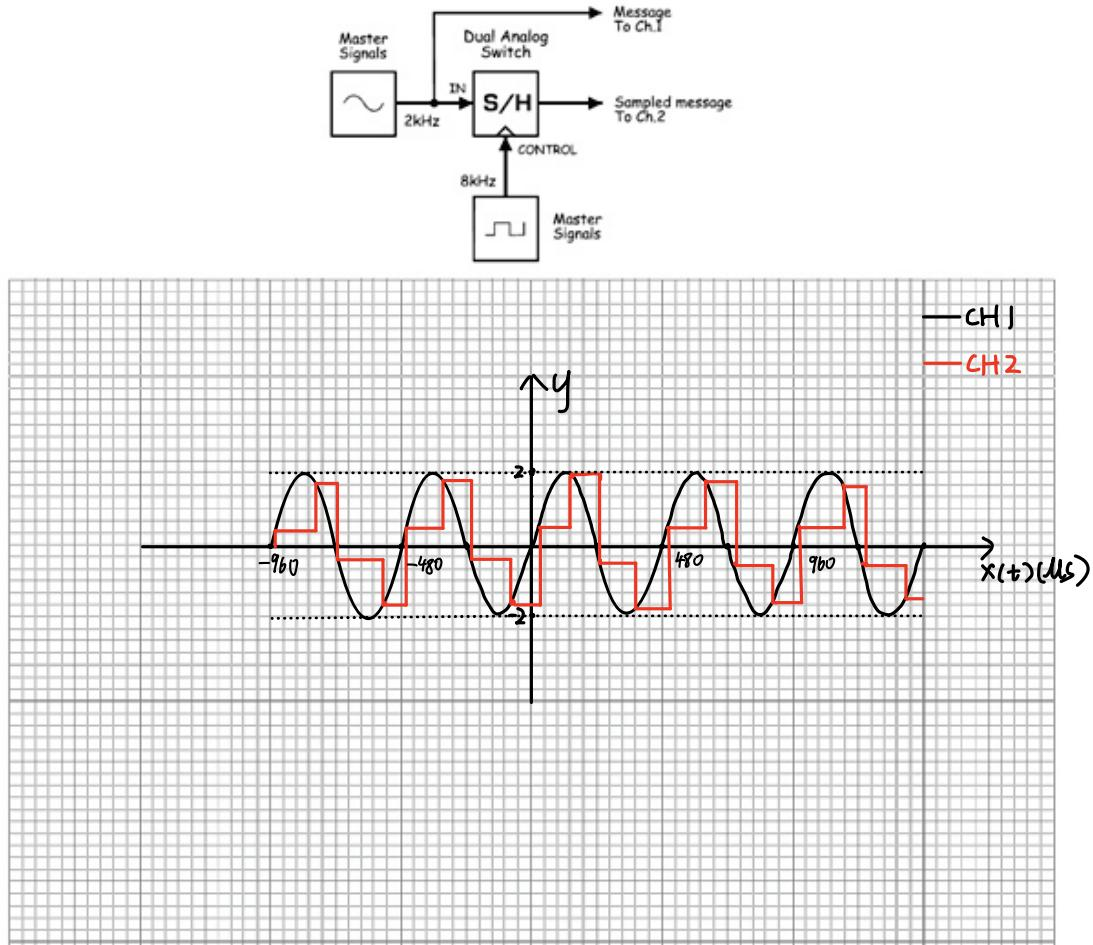

Figure 11: Sample-and-hold sampling system.
- Modify the setup as shown in Figure 11 below.